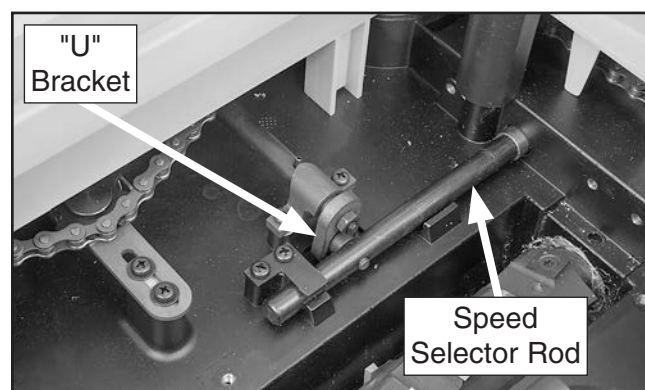

Figure 21. Speed selector rod and "U" bracket.
21. While installing gearbox, confirm that "U" bracket attached to speed selector switch engages with positioning pin on gearbox speed selection rod (see **Figure 21**).